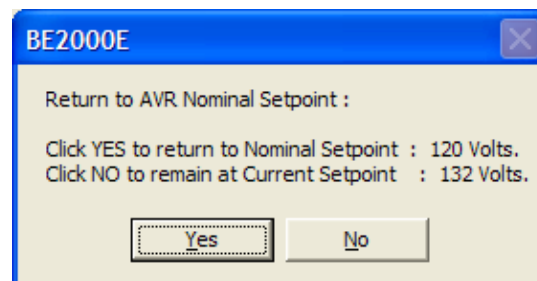

Figure 26. Message Box - Return to AVR Nominal Setpoint
The setpoint value currently set in the unit by any of the above methods is displayed in the current setpoint textbox. To return to the nominal setting, the button adjacent to *AVR Setpoint (V) (Nominal)* should be pressed. If the *AVR Analysis* screen is left without returning to nominal setpoint, a message box (Figure 26) is shown which allows the user to return to nominal setpoint by pressing *YES* or remain at the current setpoint by pressing *NO*.